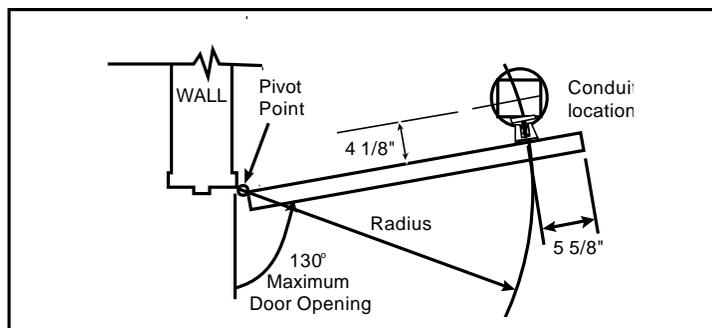

Figure 1. Single Door Conduit Location
1. Measure the door width. Calculate the radius (Figures 1 and 2) by subtracting 5-5/8" from the door width.
2. **Single Door (Figure 1):** Using the radius calculated in step 1, draw an arc (using the pivot point of the door as the center point) through the desired location of the door opening. Open the door and draw a line through the arc 4-1/8" from the pull side of the door.